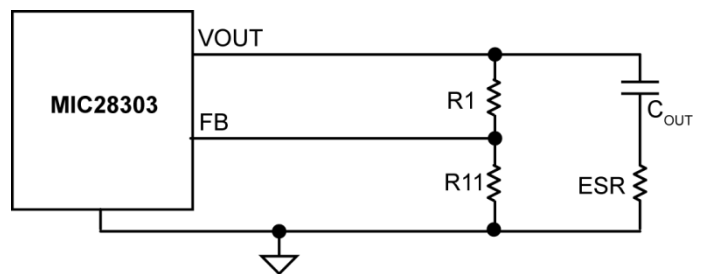

Figure 9. Enough Ripple at FB
1. Enough ripple at the feedback voltage due to the large ESR of the output capacitors (Figure 9):